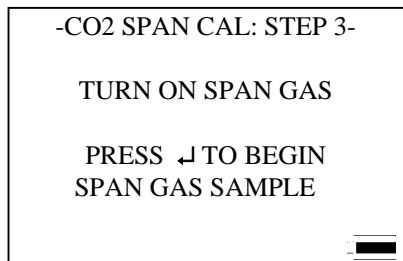

Figure 4-8: CO₂ Span Calibration: Step 3 Screen
9. Turn on the span gas (0.3 lpm) and press the \downarrow key to begin calibrating the span (Figure 4-8).